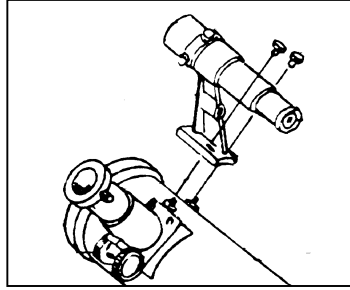

Figure 4
1. Remove the nuts from the studs where the finderscope will mount (see figure 4).